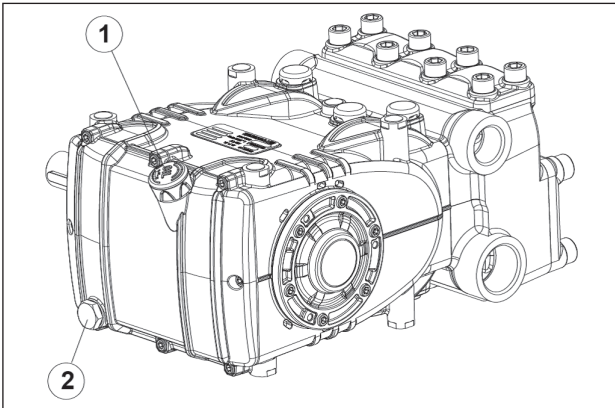

Fig. 1
To remove oil, you must remove: the oil dipstick, pos. ① and then the plug pos. ②, Fig. 1.